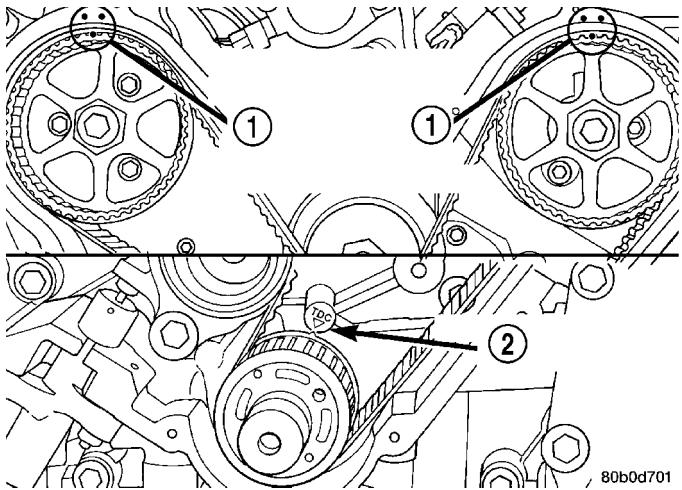

Fig. 147 Camshaft Sprocket Timing Marks
(1) Remove front timing belt covers. (Refer to 9 - ENGINE/VALVE TIMING/TIMING BELT / CHAIN COVER(S) - REMOVAL)
(2) Position crankshaft sprocket to the TDC mark on the oil pump housing by turning crankshaft in the clockwise direction (Fig. 147).